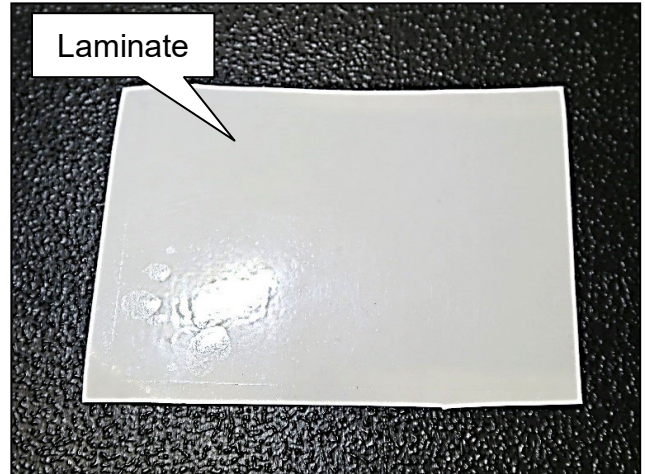
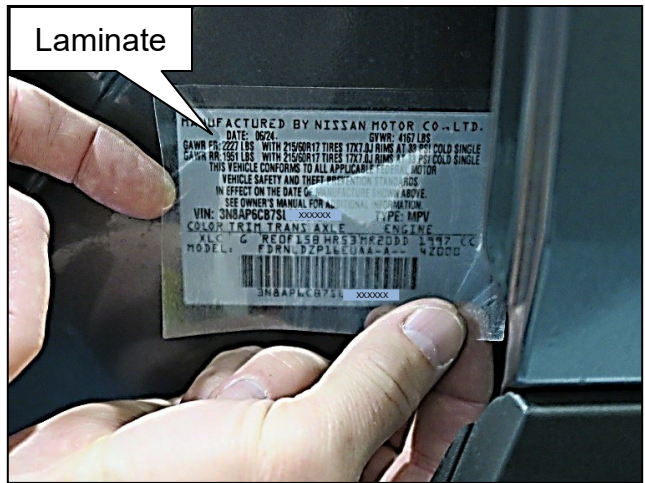

Figure 7
Figure 8
8. Peel the new laminate from the backing sheet and affix it directly over the new Certification Label (Figure 7 and Figure 8).